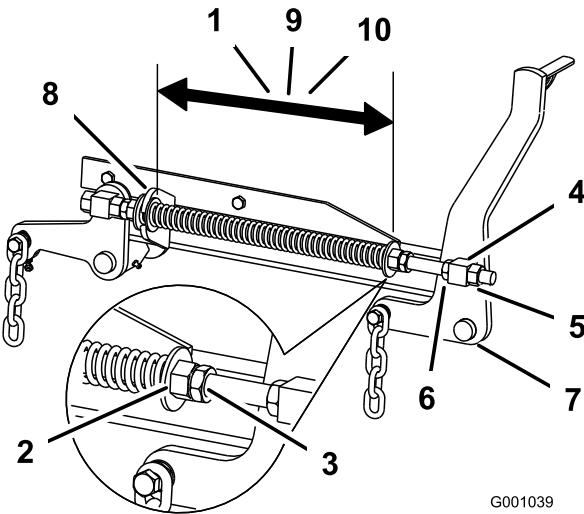

Figure 88
2. Check the distance between the two large washers, it needs to be 11-1/8 inches (28.2 cm) for 52 inch mower decks, 10-1/2 inches (26.7 cm) for 60 inch mower decks or 11-1/2 inches (29.2 cm) for 72 inch mower decks (Figure 88).
3. Adjust this distance, by loosening the spring jam nut and turning the nut in front of each spring (Figure 88). Turning the nut clockwise will shorten the spring; counter-clockwise will lengthen the spring.
4. Lock the nut into position by tightening the spring jam nut (Figure 88).